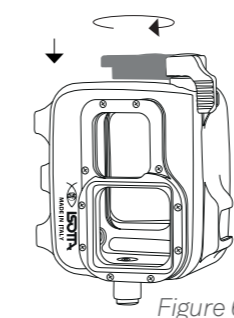

Figure 6
- Screw the knob until it locks and release the safety by pressing lightly towards the housing; (fig. 6)